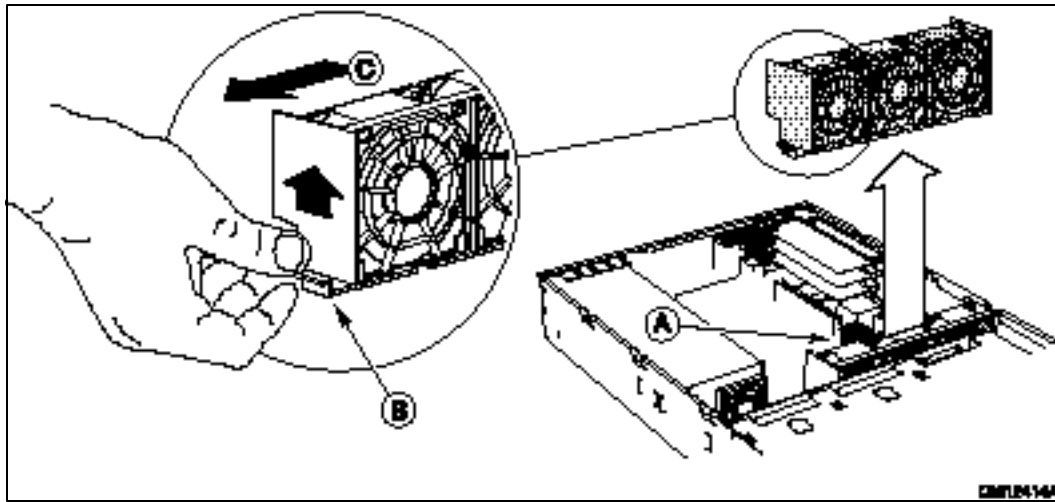

Figure 37. Removing the Fan Assembly
4. Unplug the fan cables (Figure 37, A) from the server board.
5. At the end of the fan assembly closest to the chassis centerline, lift up on tab (B) and slide the fan assembly toward the chassis centerline (C) until it releases from the chassis.